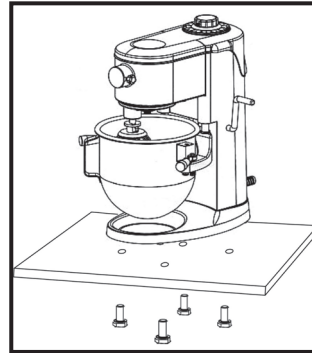

Figure 1
- You may place the mixer on bench which is capable of supporting a load of 25kg. For operation stability, please punch four holes on the table and fix SP-502A onto the table by four screws. Please see **Figure 1**.